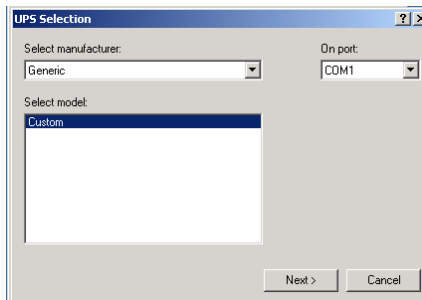

Figure 15 UPS Selection box
11. In the details section click **Select...**The UPS Selection box appears. See Figure 15.